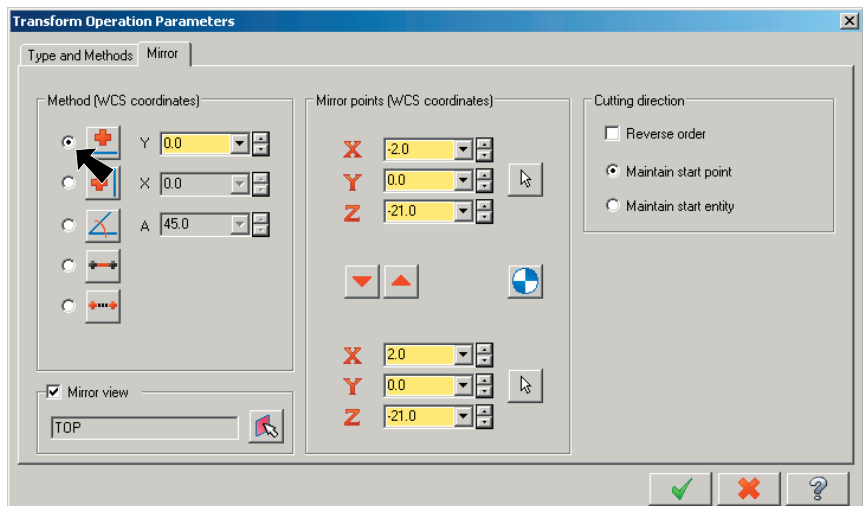

Fig. 24
Step 5. Under Mirror, select **Mirror about X axis** , Fig. 24.